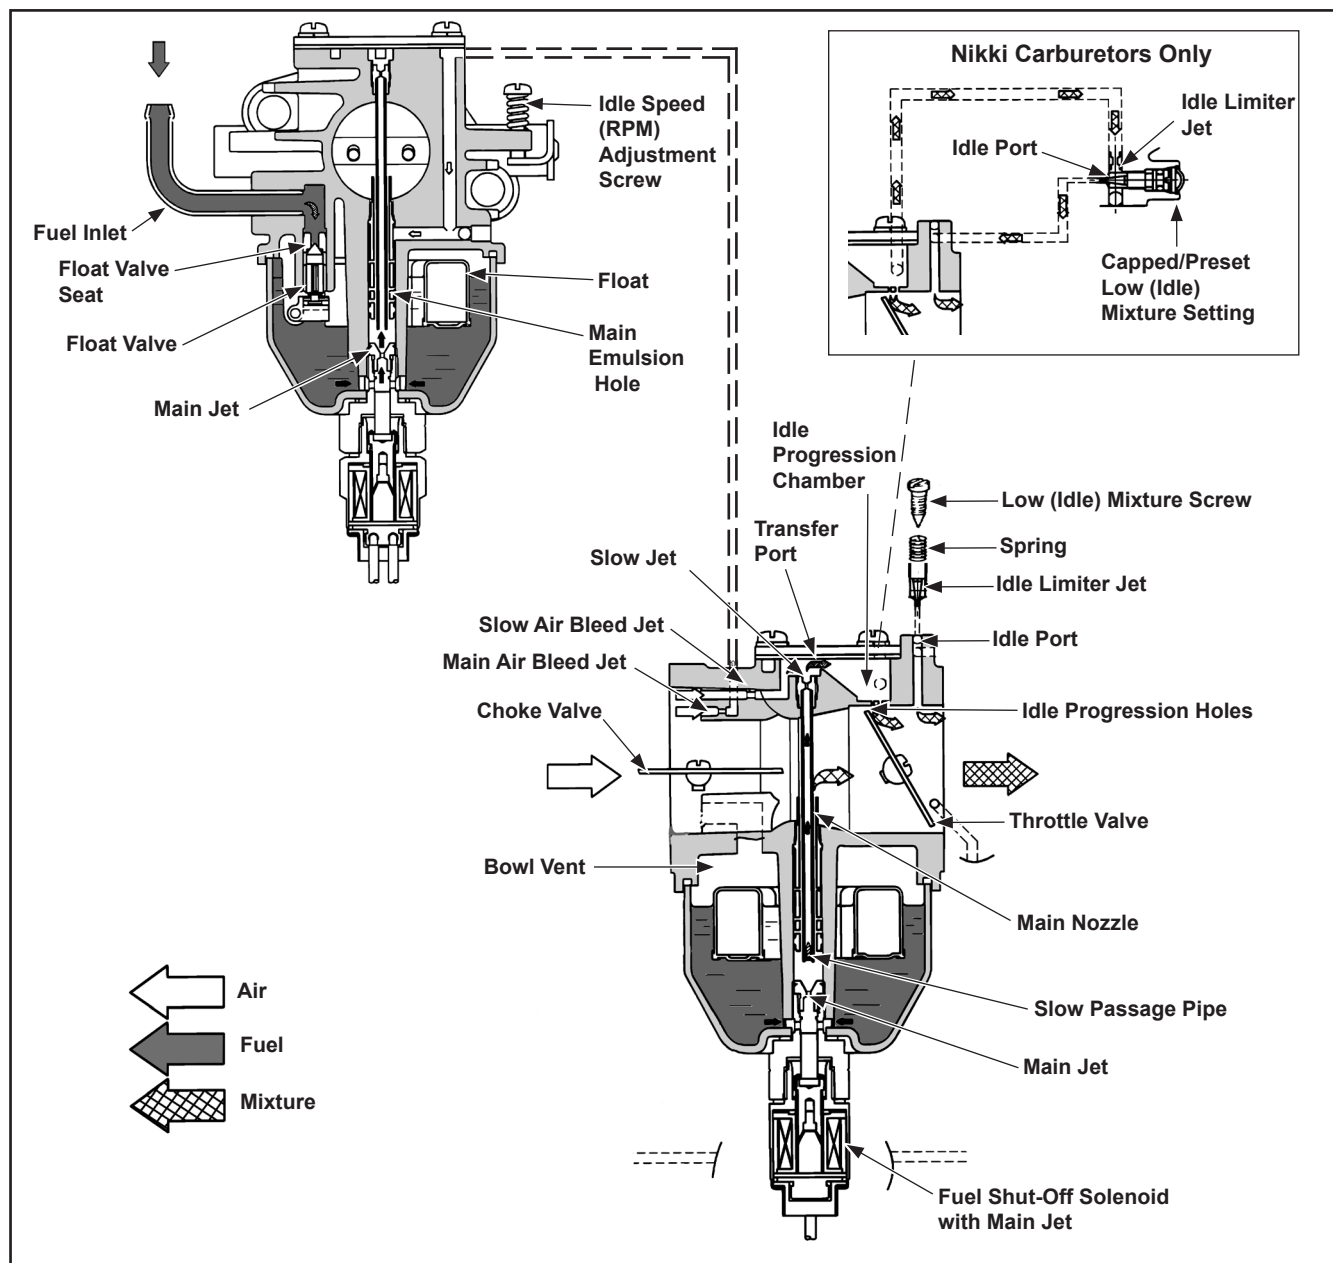

Figure 5-2. Slow Circuit (Typical).
**Slow Circuit:** (See Figure 5-2) At low speeds the engine operates only on the slow circuit. As a metered amount of air is drawn through the slow air bleed jet, fuel is drawn through the main jet and further metered through the slow jet. Air and fuel are mixed in the body of the slow jet and exit to the transfer port. From the transfer port this air fuel mixture is delivered to the idle progression chamber. From the idle progression chamber the air fuel mixture is metered through the idle port passage. At low idle when the vacuum signal is weak, the air fuel mixture is controlled by the preset idle mixture setting. This mixture is then mixed with the main body of air and delivered to the engine. As the throttle plate opening increases, greater amounts of air fuel mixture are drawn in through the fixed and metered idle progression holes. As the throttle plate opens further the vacuum signal becomes great enough so the main circuit begins to work.